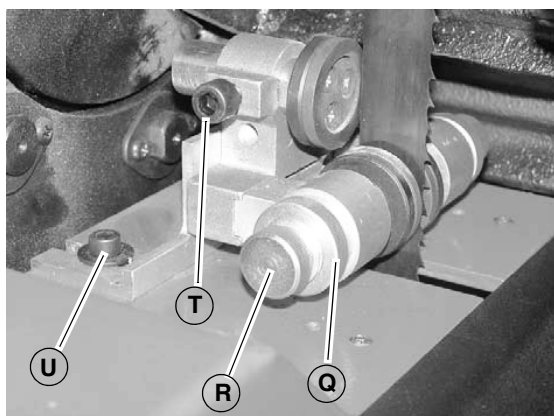

Fig. 24: Adjust lower saw blade guide
Step 2: Loosen the knurled nut (Pos. Q, Fig. 24).
Step 3: Turn the knurled nut (Pos. R, Fig. 24) counter-clockwise to adjust the lateral guide block.
Step 4: Adjust the rear guide block by loosening the Allen screws (Pos. U, Fig. 24).